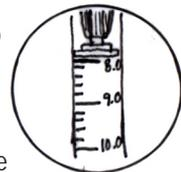

Figure 3-16a:
7. Read the test result directly from the scale opposite the bottom of the plunger tip (Figure 3-16a).